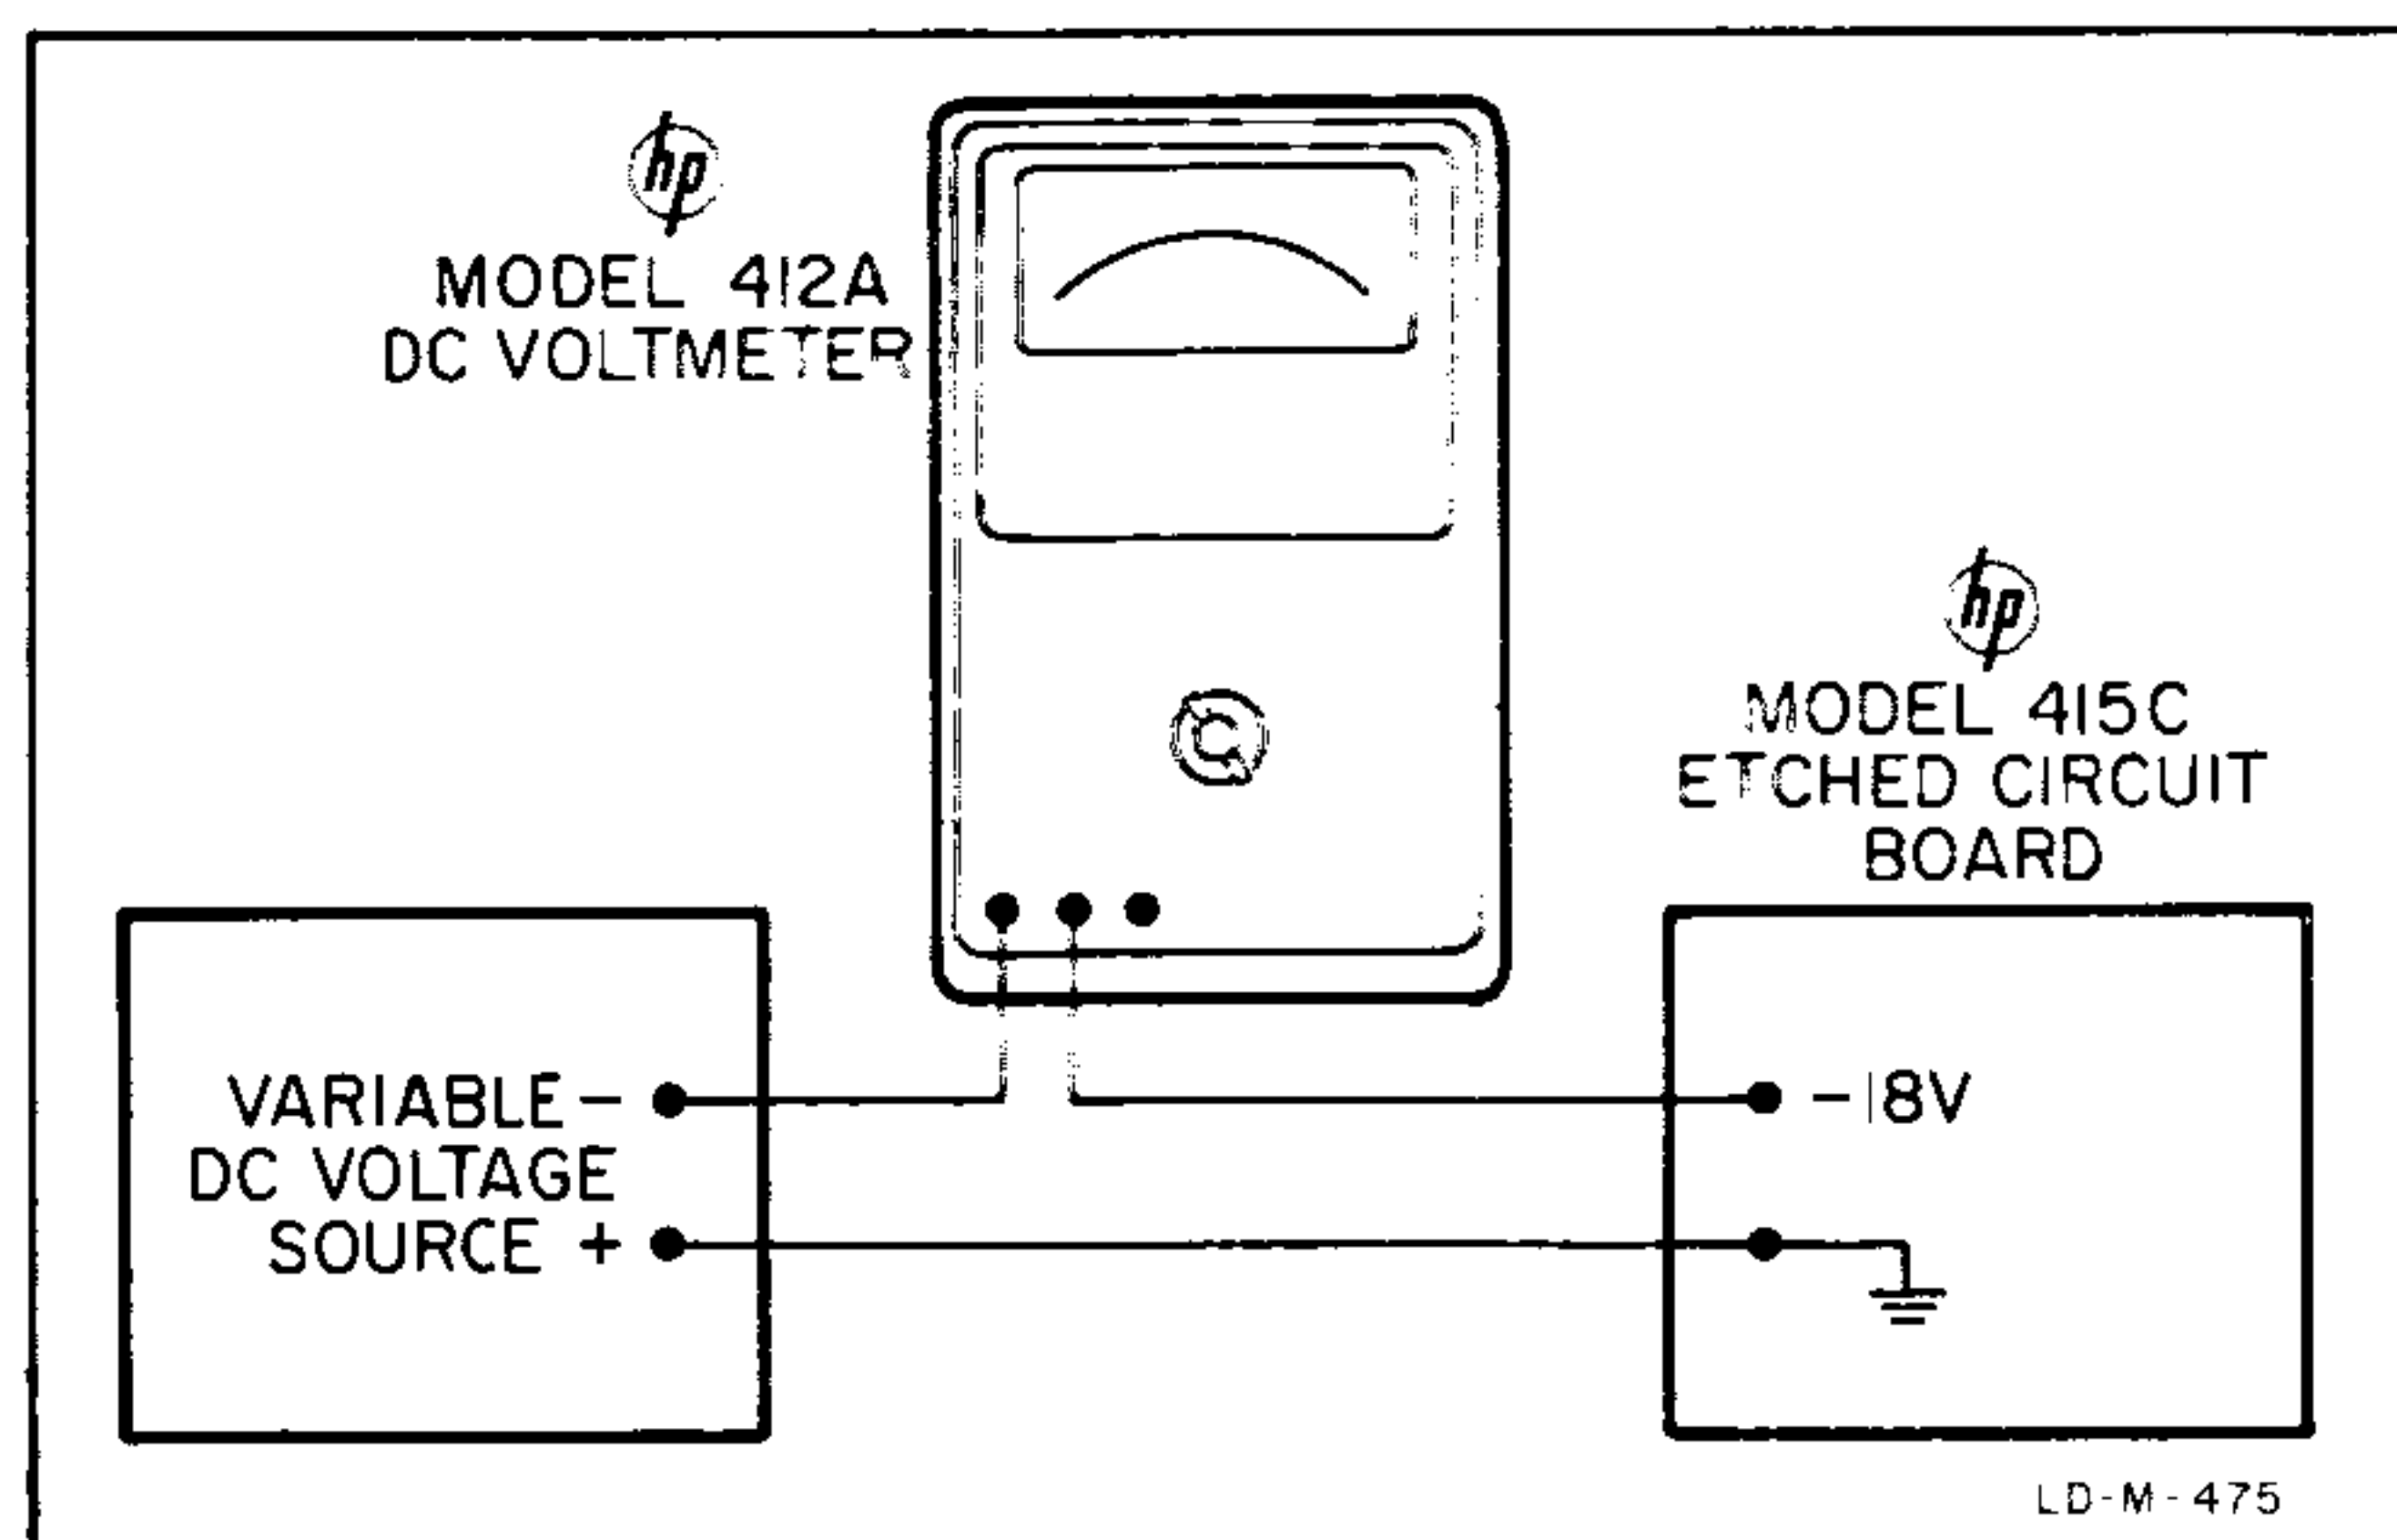

Figure 5-5. Power Supply Regulation Setup
a. Connect dc source (see table 5-1), dc voltmeter and Model 415C Power Supply as shown in figure 5-5. Plug the Model 415C into the variable power transformer (table 5-1) and set to normal line voltage, 115 volts.